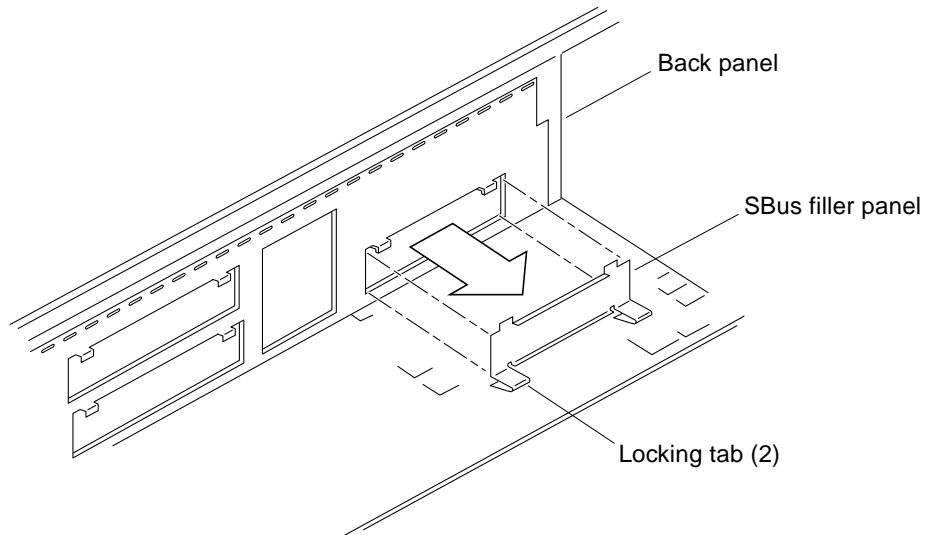

FIGURE 10-4 Removing SBus Filler Panels from the Back Panel
- a. Squeeze the filler panel bottom locking tabs to unhook them from the back panel (FIGURE 10-4).